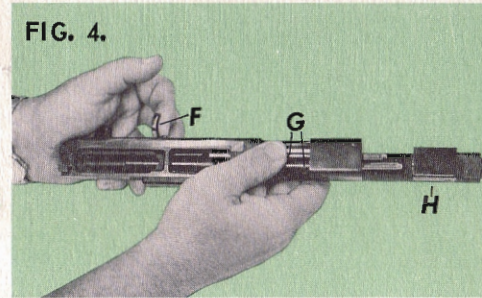
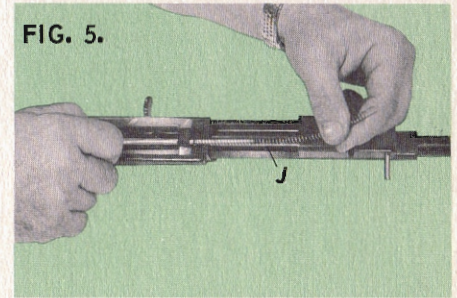

FIG. 4.
FIG. 5.
Turn receiver over and place on back as in Fig. 4. Pull Slide (F) to rear. At the same time bring both the Recoil Spring Guides (G) back. Hold Guides at rear with thumb and let Slide return forward. This disengages Guides from Gas Piston Block (H) and will enable you to remove Recoil Spring Guides. First Right Guide, then Left Guide. Hold Recoil Springs (J) as in Fig. 5 to prevent them from flying loose.